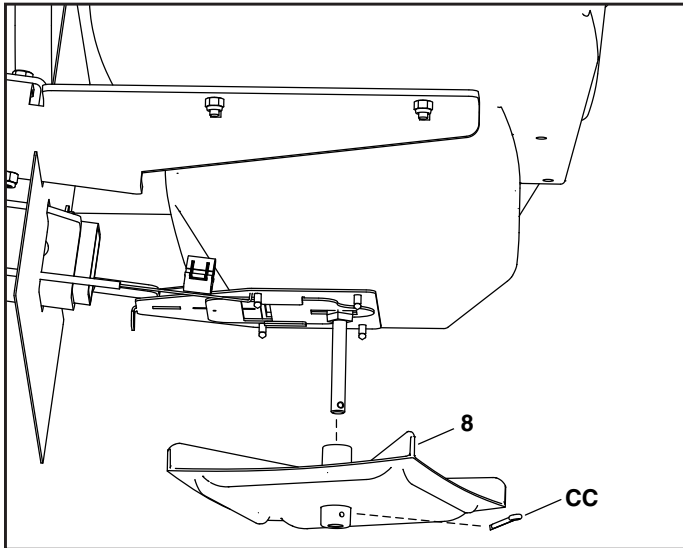

FIGURE 16
STEP 16: (SEE FIGURE 16)
- Slide the impeller (8) onto the impeller shaft (11) lining up the holes.
- Install one cotter pin (CC) through the hole on the bottom of the impeller (8) and then split the ends of the cotter pin.